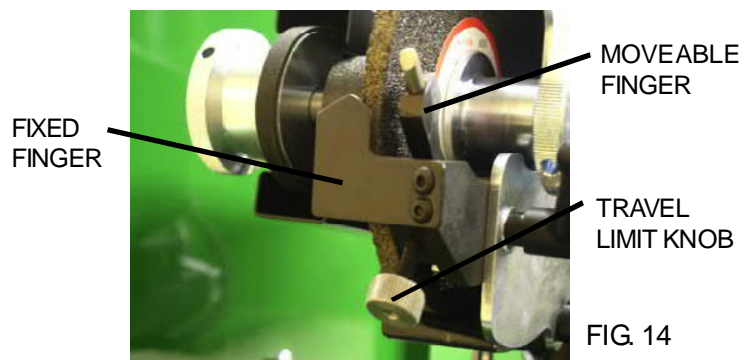

FIG. 14
2. Use the travel limit knob to adjust the stop position of the moveable finger. The moveable finger stop needs to be adjusted so that the reel blade makes a smooth transition from the index pin onto the fixed finger. See FIG. 14.